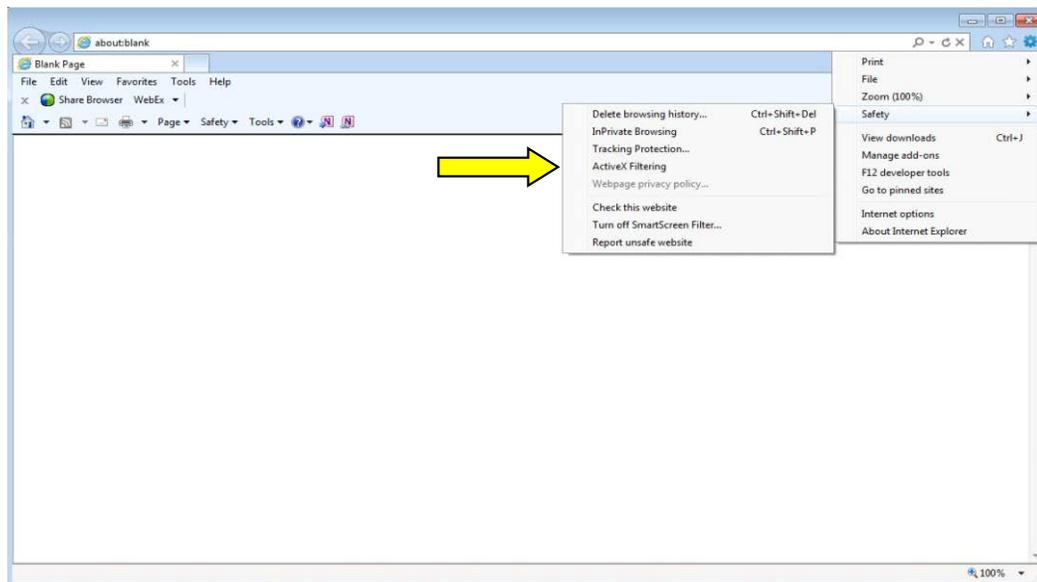

Figure 5-9: Clearing ActiveX Filtering in Internet Explorer 9
- c. Clear the setting for ActiveX Filtering, as shown in Figure 5-9.